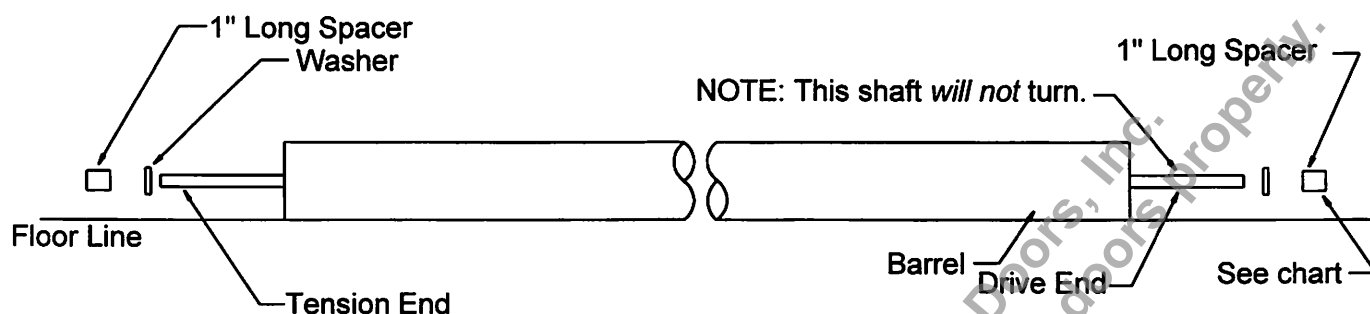

FIGURE 3A
Step 3. Assemble barrel and brackets. Place barrel in front of the opening and place washers and spacers as shown. See Figure 3A.